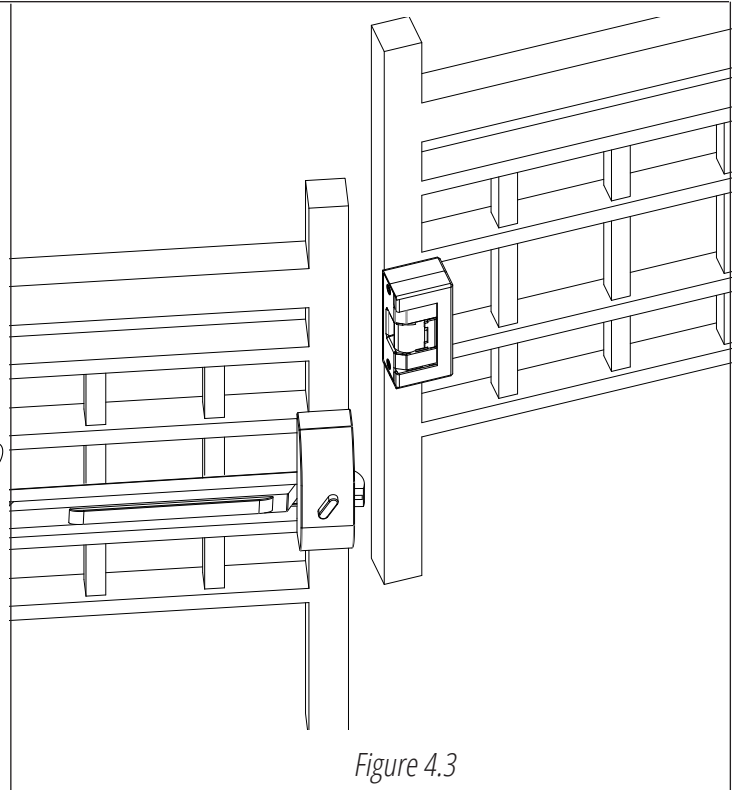

Figure 4.3
10. Secure the supplied mounting box onto the gate through welding or with the help of screws (see figure 4.3).